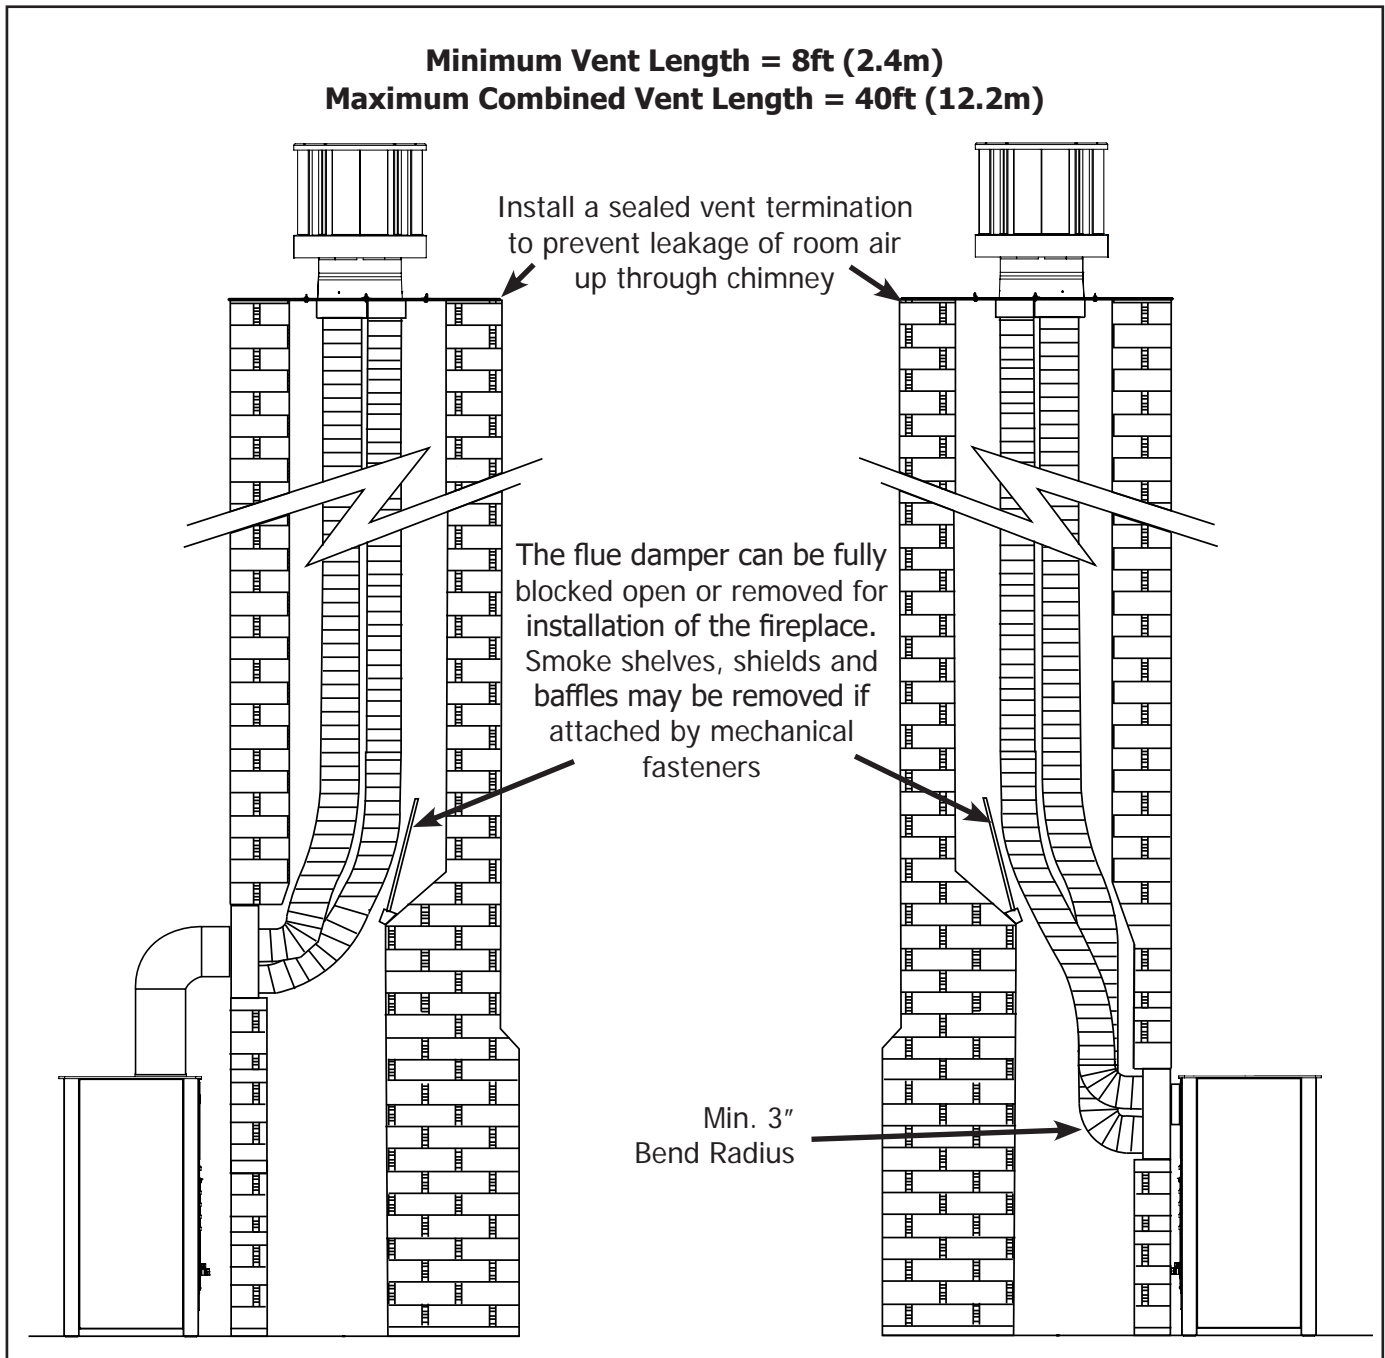

Figure 41: Min and Max Co-Linear Venting
Figure 41 below shows the range of possible co-linear vent configurations if the unit is top or rear vented, **for vertical terminations only**. Measure the height of the chimney beforehand and purchase the appropriate length of venting. Never attempt to over-stretch a flexible liner to accommodate the height of the chimney. Every joint in the venting must be secured with three (3) #8 x 3/8" HWH sheet metal screws and appropriate sealant (silicone or stove cement). The fireplace chimney must be clean, in good working order and constructed of non-combustible materials. Make sure that all chimney cleanouts are tight fittings and will not permit air to leak into the chimney.